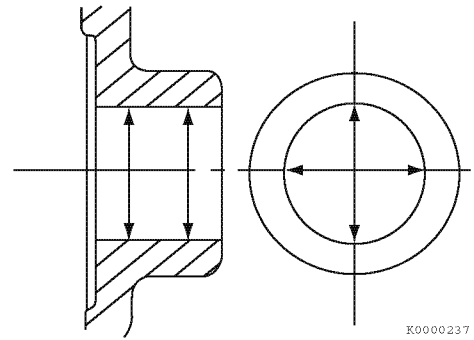

Figure 6-69
6. Measure the diameter of the wrist pin bore on both sides of the piston (**Figure 6-69**). See *Piston* on page 6-10 for specifications. Record the measurements.